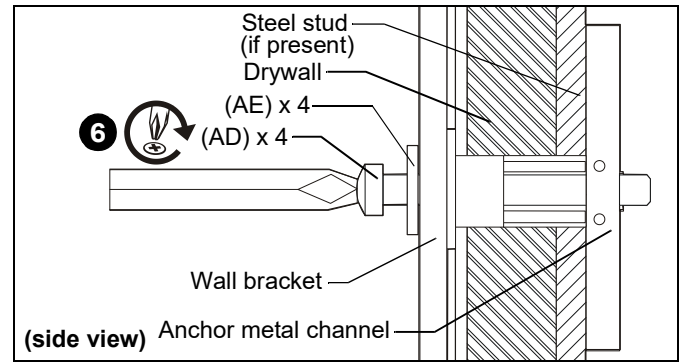

Figure 21
6. Insert 1/4-20 x 1-3/4" Phillips pan head screw (AD) through 1/4" washer (AE), corresponding mounting hole in wall bracket and into anchor (AC), and tighten until flush against wall bracket. DO NOT over tighten! (See Figure 21)